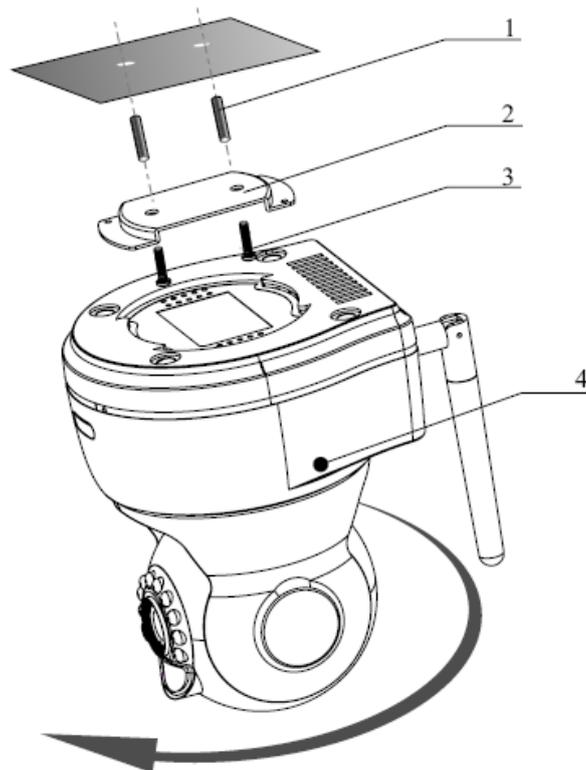

Figure 3-1
Bracket installation interface is shown as below. See Figure 3-1.
- Please put the installation holes of the bottom of the wall mount bracket to the two holes in the wall or surface (Please follow the direction shown in the Figure 3-1) and then secure firmly. Insert the two screws to the wall mount bracket to fasten the bracket.